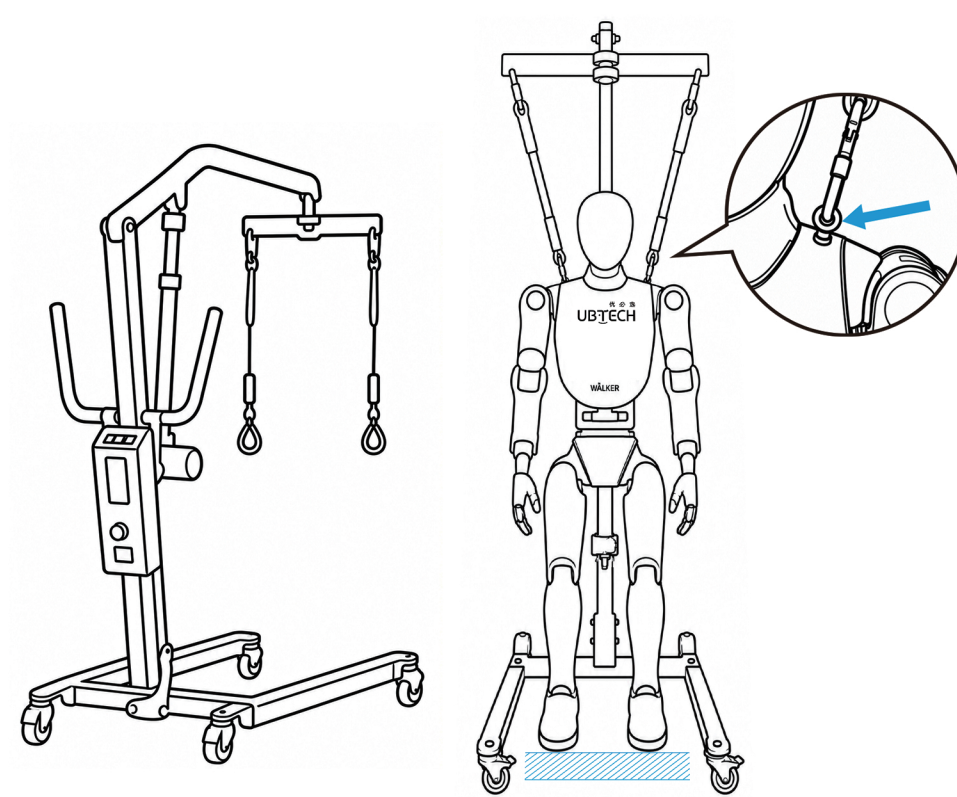

Figure 8
2. Attach the hoist hooks to the robot's lifting rings and secure the latches, then raise the hoist arm; verify that the robot's feet are clear of the ground with its limbs hanging naturally (Figure 8)